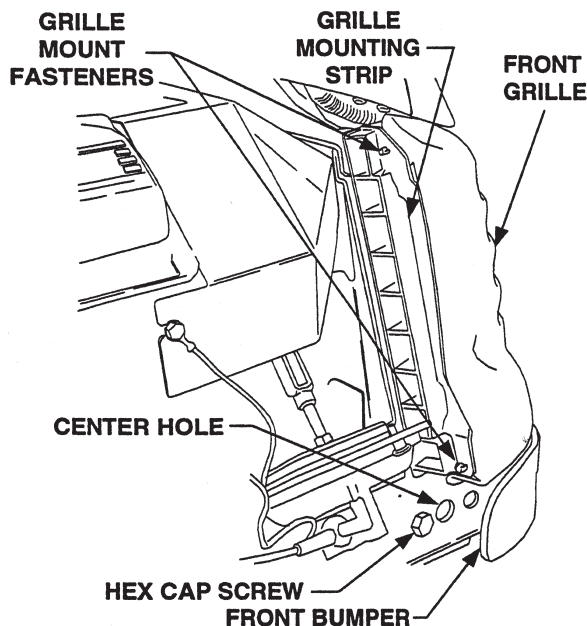

Figure 1
- b. Pinch the locking barbs and push forward on the two grille mount fasteners on each side of the tractor to release them from the grille mounting strips (See Figure 1). *NOTE: pliers may be used to pinch the barbs, if care is taken to avoid breaking them.*
2. Remove the hex cap screw and lock nut securing the front bumper to each side of the frame. Slide the bumper from the frame channels to remove (See Figure 1).
8. Slide the bumper into the frame channels until the front holes of the bumper align with the center holes in the frame. Secure the bumper with the previously removed hex cap screws and lock nuts (See Figure 1).